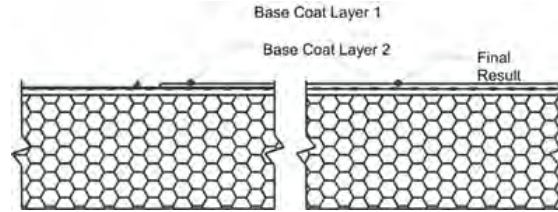

Figure 20
- 3) Allow the base coat mixture to take up until firm to the touch. Trowel a second tight coat of the base coat mixture over the first coat to **fully cover** the reinforcing mesh - Figure 20. The result should be such that the reinforcing mesh is approximately centered within the base coat thickness. Do not allow the first pass to completely dry prior to the second pass application or an excessive amount of base coat mixture will be necessary to fully coat the wall surface.